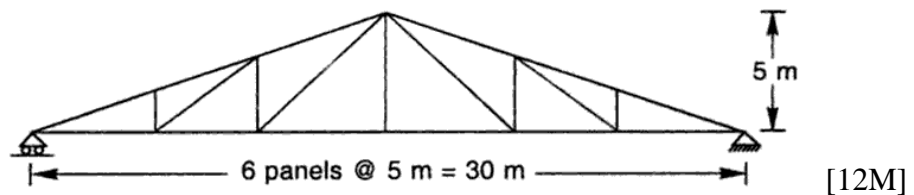

Figure 3
7. Describe and design a Pratt-truss as shown in Figure 3 the design wind pressure is  $1200\text{N/m}^2$ . The trusses are covered with AC sheets and the centre-to-centre spacing of trusses is  $6\text{m}$ .